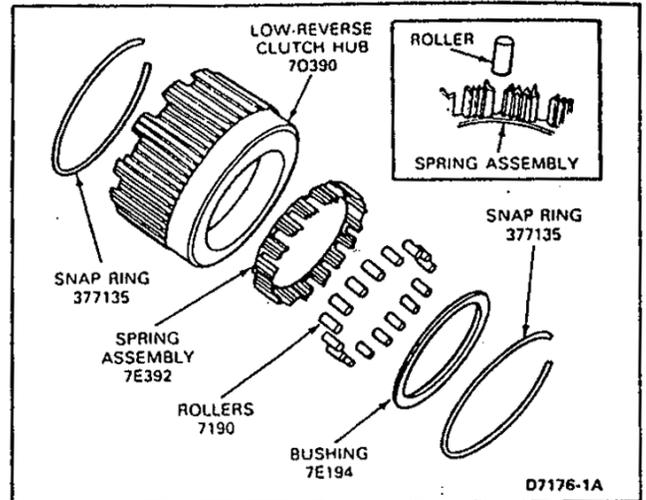

FIG. 56 One-Way Clutch Disassembled
1. Remove the snap ring and bushing from the rear of the low-reverse clutch hub (Fig. 56).
- Install a roller into each of the spring assembly compartments (Fig. 56).
- Install the remaining snap ring at the rear of the low-reverse clutch hub to secure the assembly (Fig. 56).